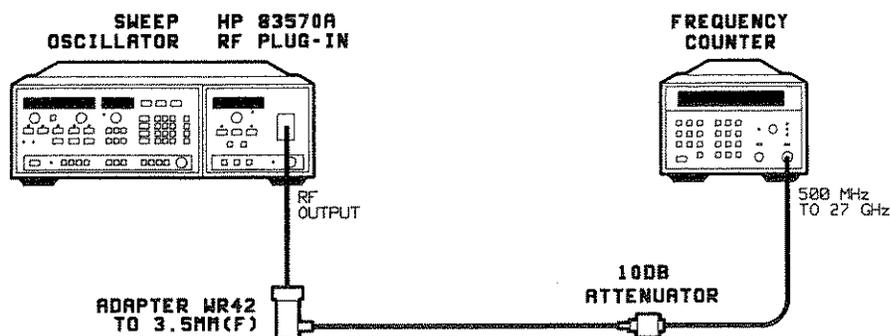

Figure 4-3. Frequency Change with 10 dB Power Level Change
1. Connect the equipment as shown in Figure 4-3. Turn on the equipment and press [INSTR PRE-SET] on the sweep oscillator/RF plug-in. Allow one hour warm-up.